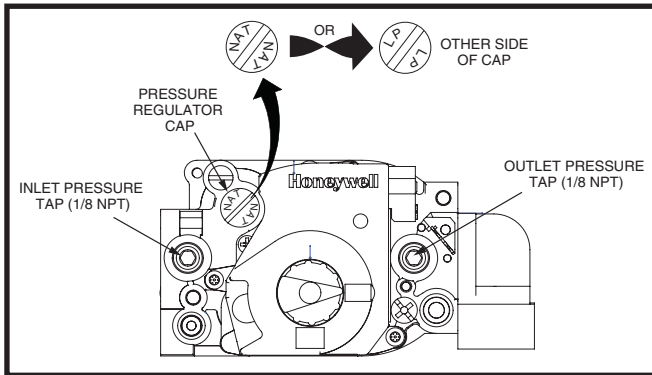

Figure 28. Honeywell Gas Valve
- A 1/8" NPT plugged tapings for test gauge connection are present on the gas valve. See Figure 28 \(page 17\) for locations.
- a. Remove the black cover and unscrew the converter located on top of the gas valve. See Figure 28 \(page 17\).